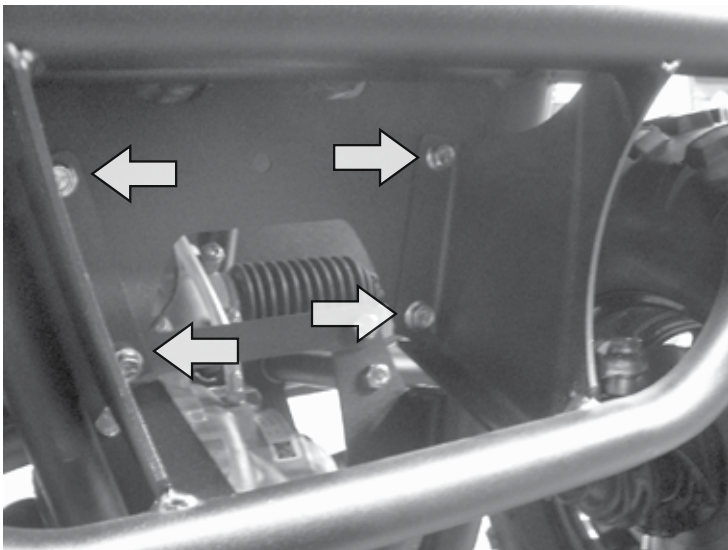

Fig. 1 Front bumper bolts
**1** Although not necessary, American LandMaster recommends removing the front bumper using a 1/2" socket and wrench. See figure 1.